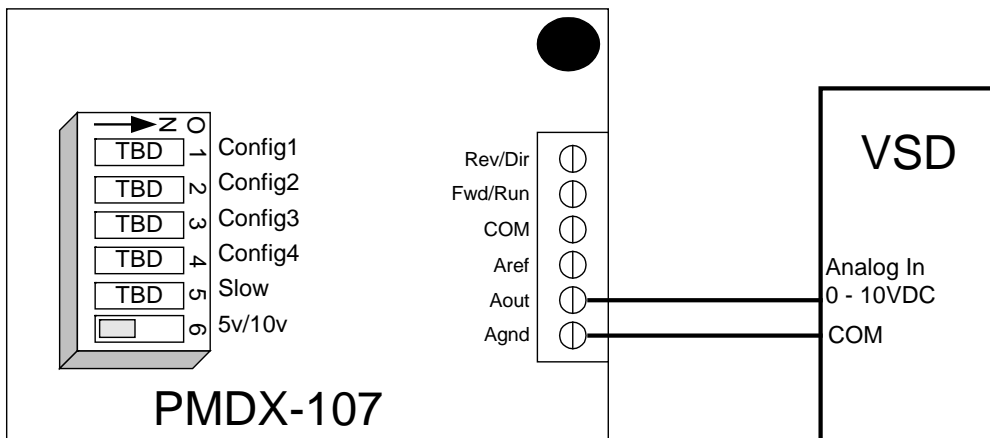

Figure 2 - Example 0V to 10V VSD Connections & DIP Switch Settings
- 0 to +10V The VSD expects an analog voltage between 0 and +10V, where +10V is full speed. In this case, the PMDX-107 provides the +10V reference for its analog output circuit. See Figure 2 for an example of the DIP switch settings and VSD connections for this configuration.